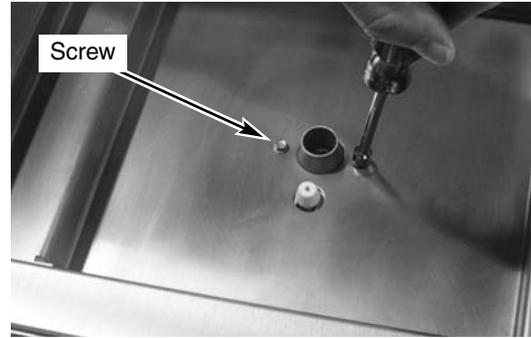

Fig 43
8. Install the NG valve assembly to the underside of the side burner with the two screws previously removed (Fig. 43).